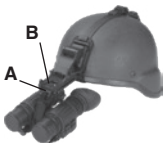

FIGURE 3-10. ATTACHING ATN PS-15 TO HELMET MOUNT
2. Align the adapter and the helmet mount. Slide the device rearwards until the alignment boss (Figure 3-10, A) aligns with the alignment groove (B) on the helmet mount. Push until the adapter locks into the helmet mount.